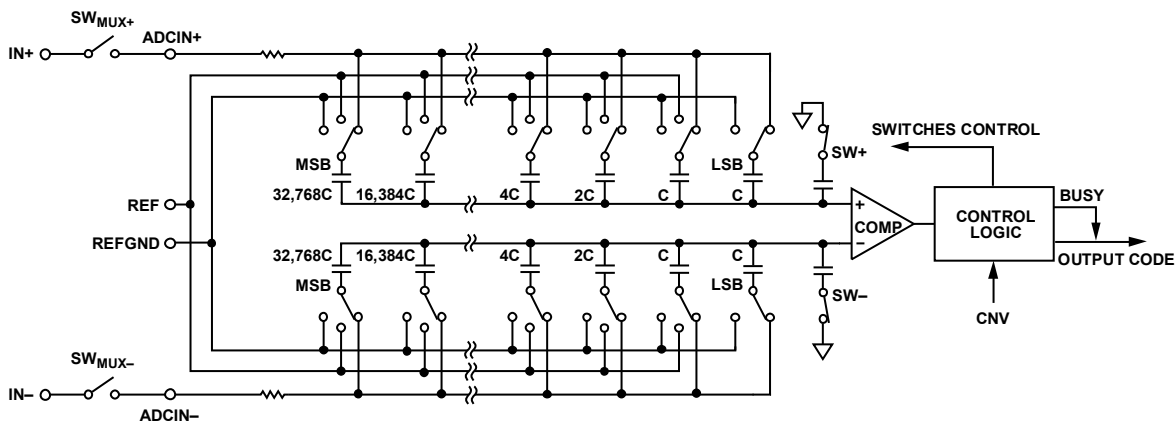
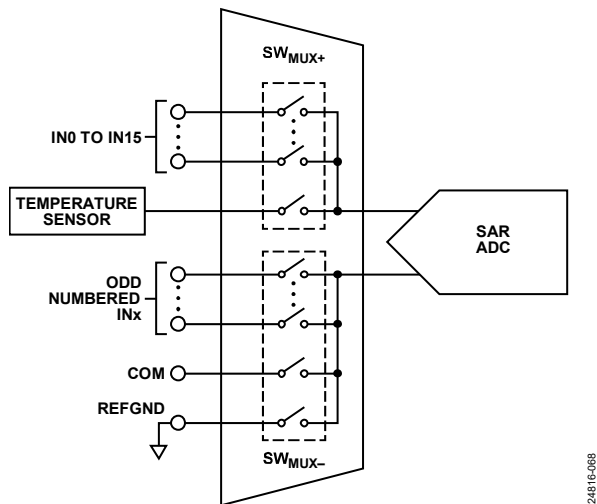
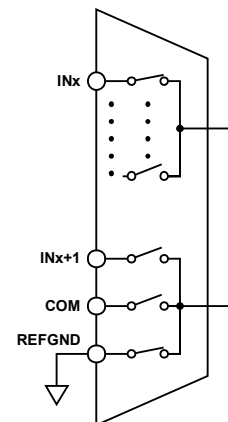

Figure 61. ADC Simplified Schematic
Figure 65. Multiplexer Simplified Schematic
Figure 66. Channel Configuration Option A
The AD4695/AD4696 contain an SAR-based ADC core that utilizes a charge redistribution digital-to-analog-converter (DAC) to quantize the applied input voltage to an output code. Figure 61 shows a simplified schematic of the AD4695/AD4696 SAR ADC core.
The analog inputs and the temperature sensor are connected to the capacitor array inputs (ADCIN+ and ADCIN-) via the internal low crosstalk multiplexer, represented by SW_{MUX+} and SW_{MUX-} in Figure 61. The multiplexer switches are controlled by the internal channel sequencing logic and are updated once per conversion (see the Multiplexer section and the Channel Sequencing Modes section).
A low crosstalk analog multiplexer routes the signals from the analog input pins to the ADC core inputs. The impedance of the analog inputs are modeled as the parallel combination of the pin capacitance (C_{PIN}) and the network formed by the series connection of R_{IN} and C_{DAC} . R_{IN} represents the ADC input series resistance and the multiplexer switch resistance and is typically 240 Ω . C_{DAC} represents the ADC sampling capacitive DAC shown in Figure 61, and is typically 60 pF.
The AD4695/AD4696 contain a flexible, low crosstalk analog multiplexer for selecting from the 16 analog inputs and internal temperature sensor and routing them to the inputs of the 16-bit, pseudo differential SAR ADC core. Figure 65 shows a simplified schematic of the internal multiplexer. The SW_{MUX+} and SW_{MUX-} switches shown in Figure 61 and Figure 65 represent the multiplexer switches that route the selected channel to the ADC inputs (labeled $ADCIN+$ and $ADCIN-$ in Figure 61). SW_{MUX+} and SW_{MUX-} are break-before-make and are controlled by the internal channel sequencing logic (see the Channel Sequencing Modes section).
The multiplexer allows flexible analog input channel configuration. The SW_{MUX-} position is user programmable, and can be assigned to any of the pins shown in Figure 65 (see the Channel Configuration Options section).
The channel configuration settings include pin pairing assignments and signal polarity modes. The pin pairing options assign the position of SW_{MUX-} for each position of SW_{MUX+} and determine which signal is routed to the negative side of the SAR ADC core ($ADCIN-$ in Figure 61). The signal polarity modes configure the $ADCIN-$ voltage range. Figure 66 shows the pin pairing and voltage ranges for the different channel configuration options.
- Figure 66, IN0 to IN15 paired with REFGND
When the temperature sensor is selected, the multiplexer SW_{MUX+} switch (see Figure 65) selects the temperature sensor output and its SW_{MUX-} switch selects REF_{GND}, and the SAR ADC core samples V_{TEMP} to generate a corresponding output code. The analog-to-digital conversion of the temperature sensor output utilizes the same transfer function as an analog input configured in unipolar mode with $\text{OSR} = 1$ (see the Transfer Function section).